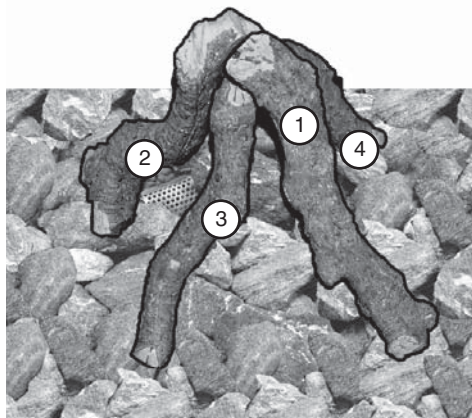

Fig. 16-4
1. Place the ends of three or four logs into the volcanic stones with their flat sides facing inward and their tops pointed upward. Then lean their other ends against each other at an angle in the center of the fire ring (see Fig. 16-4).